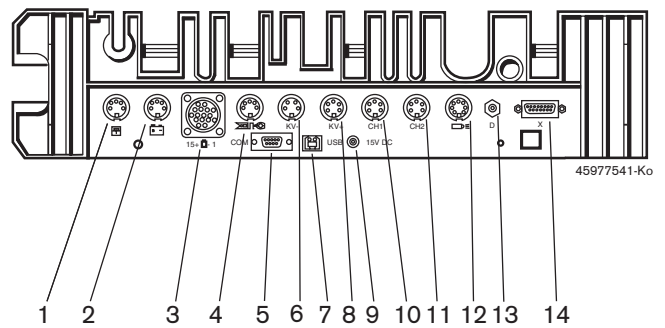

Fig. 3: Measuring unit terminal strip (from below)
2. Connect sensors to designated slots in measuring unit (see Fig 3). Only connect current clamp 1000 A and adapter cable 1 684 465 513 when required.